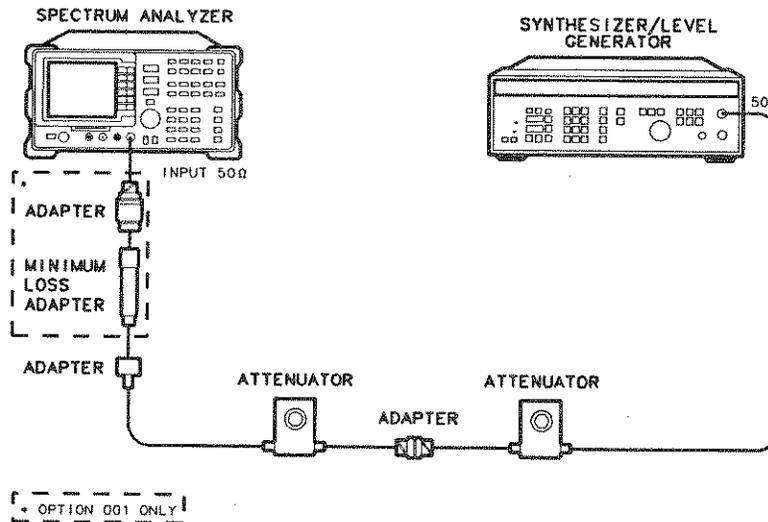

Figure 3-10. Reference Level Accuracy Test Setup
2. Connect the equipment as shown in Figure 3-10. Set the HP 355D to 10 dB attenuation and the 355C to 0 dB attenuation.